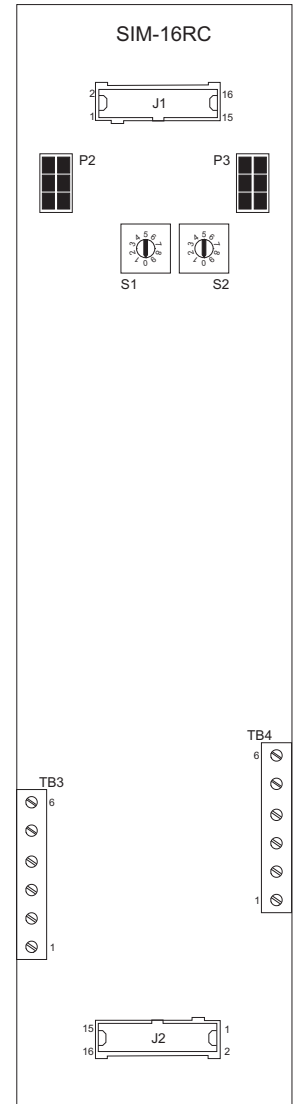

Figure 1
**Rotary Address Switches** - Set the board address for each SIM-16RC using both of the ten-position rotary switches located on the board (See Figure 1). Each of these addresses must be a sub-address of the NIC-C or DAC-NET and must be the same as the addresses assigned in the Zeus Programming Tool.